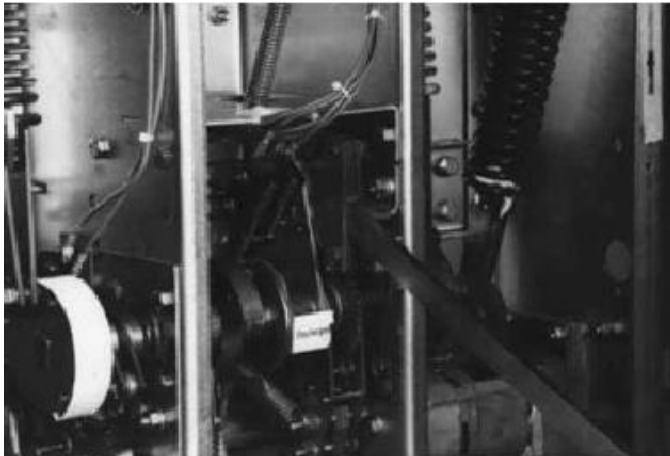

Figure 6-11 Manually Charging Closing Springs
Step 7 - Charge the closing springs with the maintenance tool. Continue charging the closing springs until a “click” is heard and the status indicator shows “Charged” (Figure 6-11).